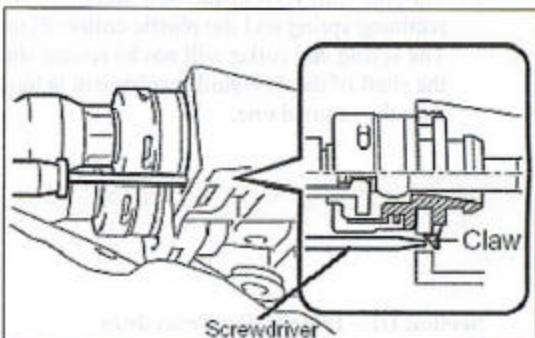

Figure 5
9. Insert a screwdriver in the slot below the shift cable to release the claw (Figure 5).